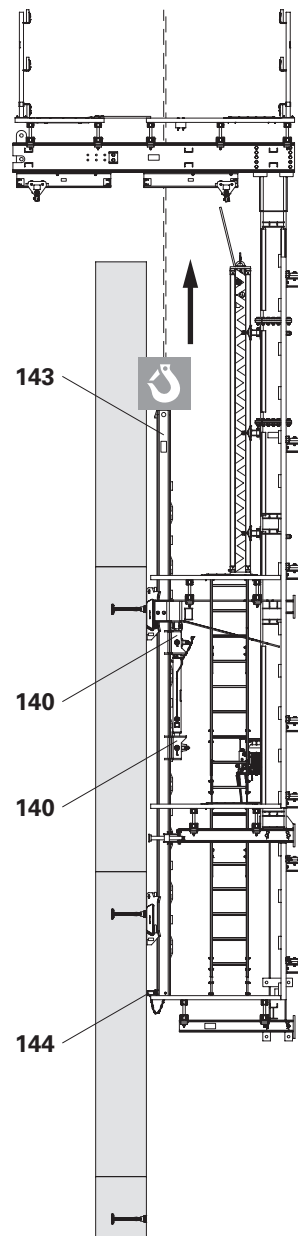

Fig. E2.02
1. Set all climbing devices (140) to the "Neutral" position.
2. Remove the spacer (144).
3. Attach the climbing rail (143) to the crane and pull it upwards and out. (Fig. E2.02)